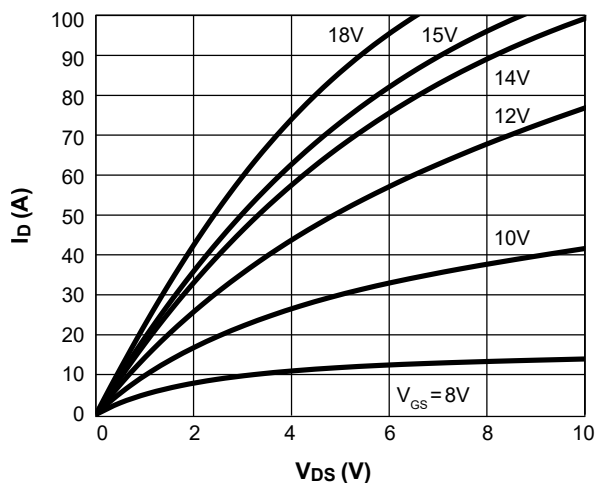

Figure 1. On-Region Characteristics $T_J = 25^\circ\text{C}$
J. The static characteristics in Figures 1 to 8 are obtained using <300 ms pulses, duty cycle 0.5% max.